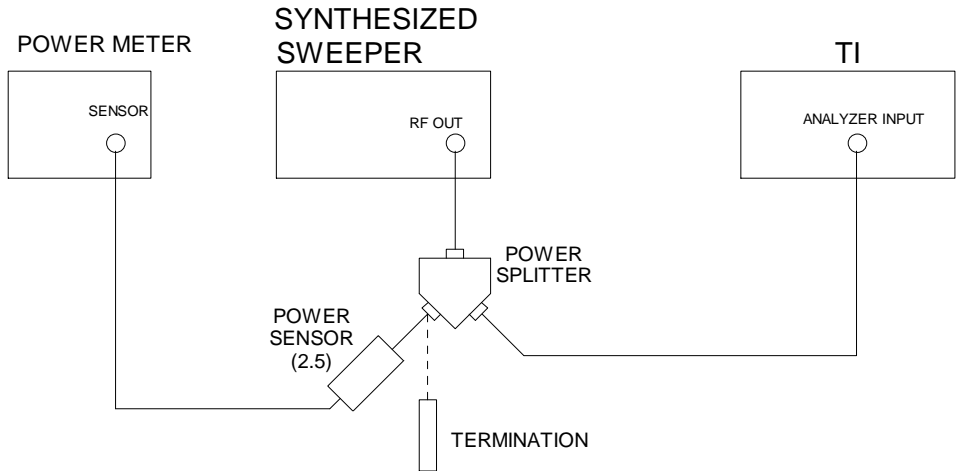

Figure 2.
4.9.3 Connect the equipment as shown in Figure 2 with the Power Sensor (2.5) connected to the Power Splitter.